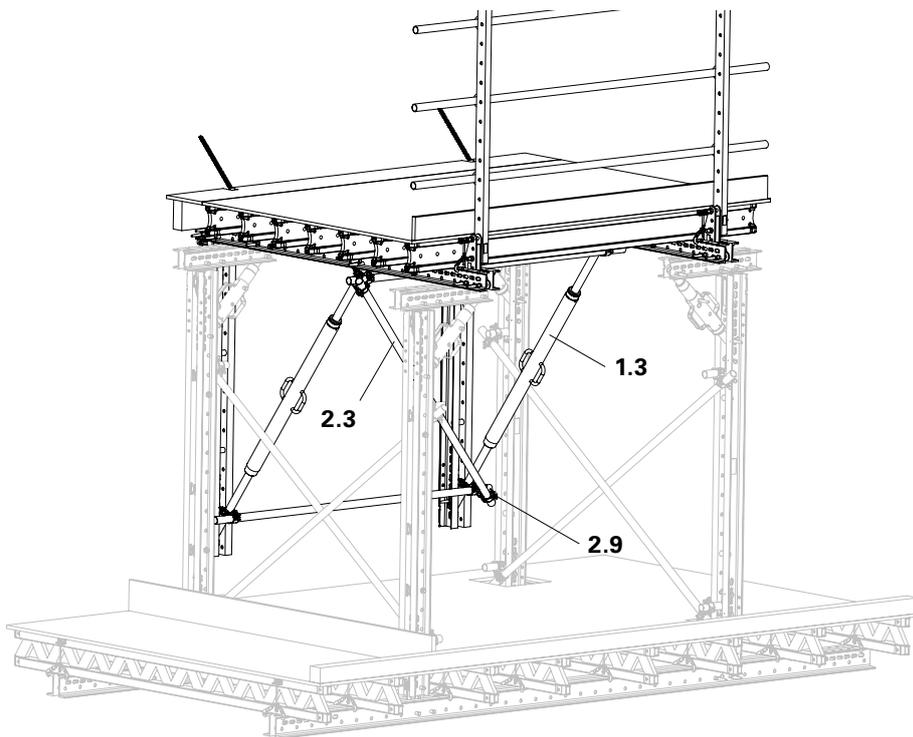

Fig. D4.01
2. Remove the diagonally installed Steel Scaffold Tube \varnothing 48.3 x 3.2 (2.3) and Swivel Couplings DK 48/48 (2.9). (Fig. D4.01)
4. Remove the Heavy-Duty Spindles SLS (1.3). (Fig. D4.01)